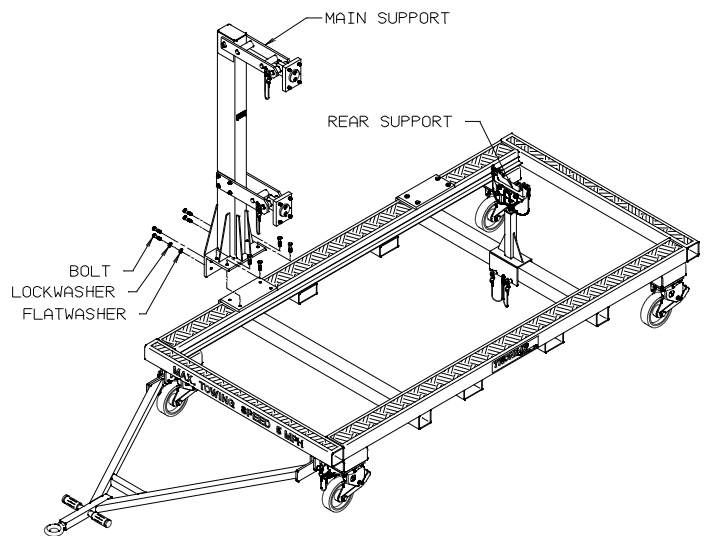

FIGURE 2
2. For the main support, use one (1) flatwasher, one (1) lockwasher, and one (1) 1/2-20 grade 8 bolt at each of the eight (8) locations (see Figure 2). Screw all bolts in finger tight, and gradually torque each bolt to 85 ft-lbs. The engine stand is now ready to accept an AE-3007-C engine.